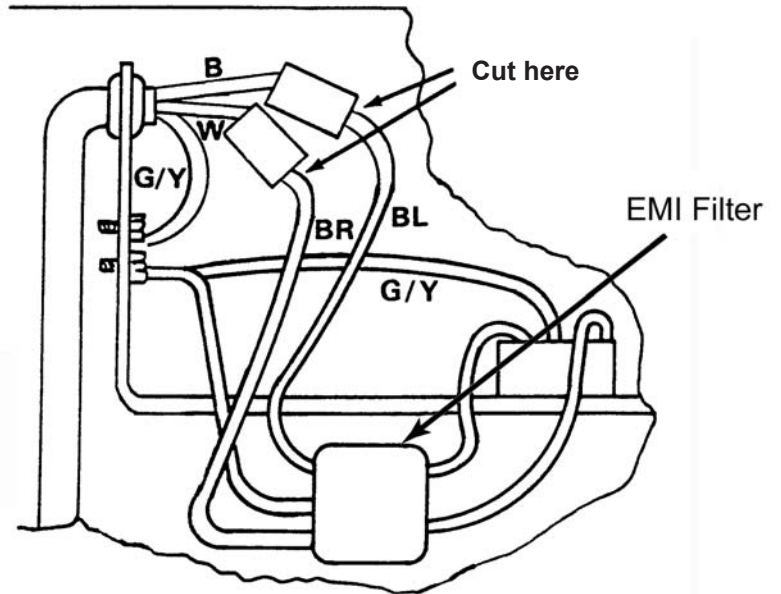

**Figure 2-3. Mounting the BC-1400 to a Wall**
The BC-1400 is primarily designed to be flush mounted on a wall with the cabinet itself protruding through a hole (or cutout) in the wall. The cutout should be a minimum of 39 1/2 inches high by 12 1/2 inches wide. The stainless steel panel attached to the cabinet is mounted tight (or flush) against the outside surface of the wall and secured with two angle braces (one on each side of the bill changer). See *Figure 2-3* for an illustration of this mounting technique. The wall should be flat and vertical, so that when the changer is mounted to the wall, no gap exists between the wall and the stainless steel panel. If the changer is mounted on an outside wall, apply a liberal bead of sealant or caulking to the back side of the panel near the four outside edges to ensure a good weather seal and discourage prying.
1. Refer to *Figure 2-3* and then make an opening in the wall just large enough for the changer cabinet. (Determine the bill changer mounting height before you start cutting into the wall.)
2. Depending on the wall thickness, locate and drill three 1/4-inch diameter (or larger) holes in each side of the cabinet as shown in *Figure 2-3*. Drill the holes in the angle-iron to match the holes in the cabinet.